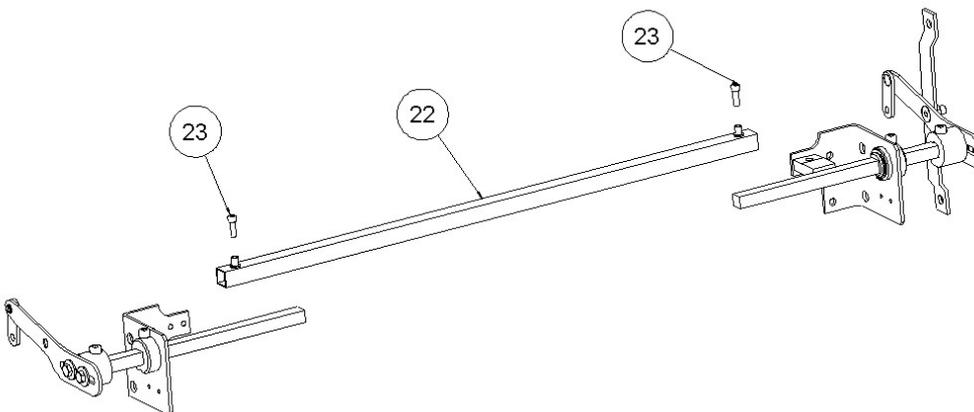

Figure.6
7. DRIVING BAR AXLE PLACING: The joined arms must be introduced in endings of the driving bar axle (22) and must be screwed through M6 x 20 DIN 912 screws (23). The width of the driving bar can be adjusted introducing more or less the arms into the axle - Fig.6 -.